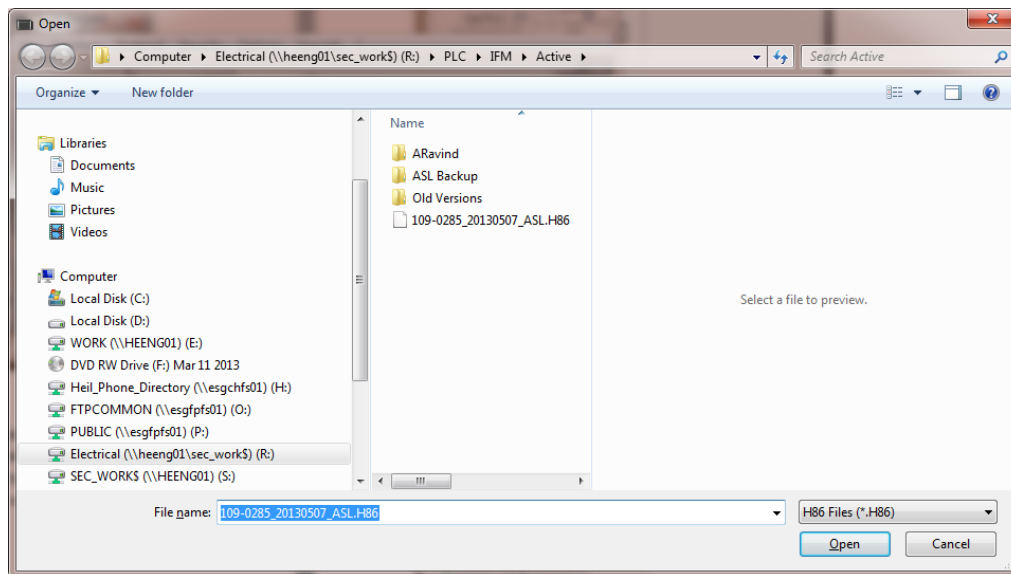

Figure 4. Select the Program from the PC
- (e) To download a program to a unit, click the **“Download”** button. A file open window will appear. Select the appropriate file from the computer and select open. See **Figure 4**.